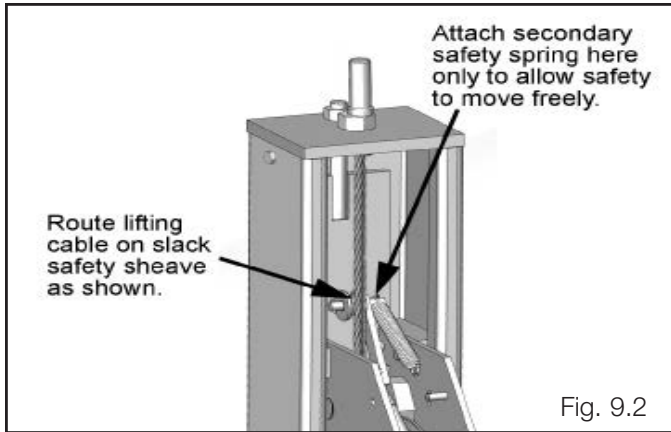

Fig. 9.2
2. Route the threaded Cable ends through the ends of each Cross Tube, over the Slack Safety Sheave then to the top of each Column. Secure using the M22 Hex Head Nuts and Flat Washers. Tighten each nut until there is at least one inch of threads protruding through the top of the Nut. The Cables will remain loose until start up and final Cable adjustments are made. (See Fig. 9.2 - 9.3)